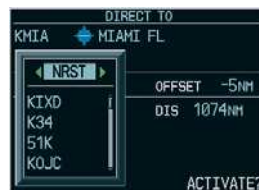

Figure 7-9 Nearest Airport List (PFD)
- 3) Turn the small **FMS** Knob to the right to display the 'NRST' airports to the aircraft's current position as shown in Figure 7-9.